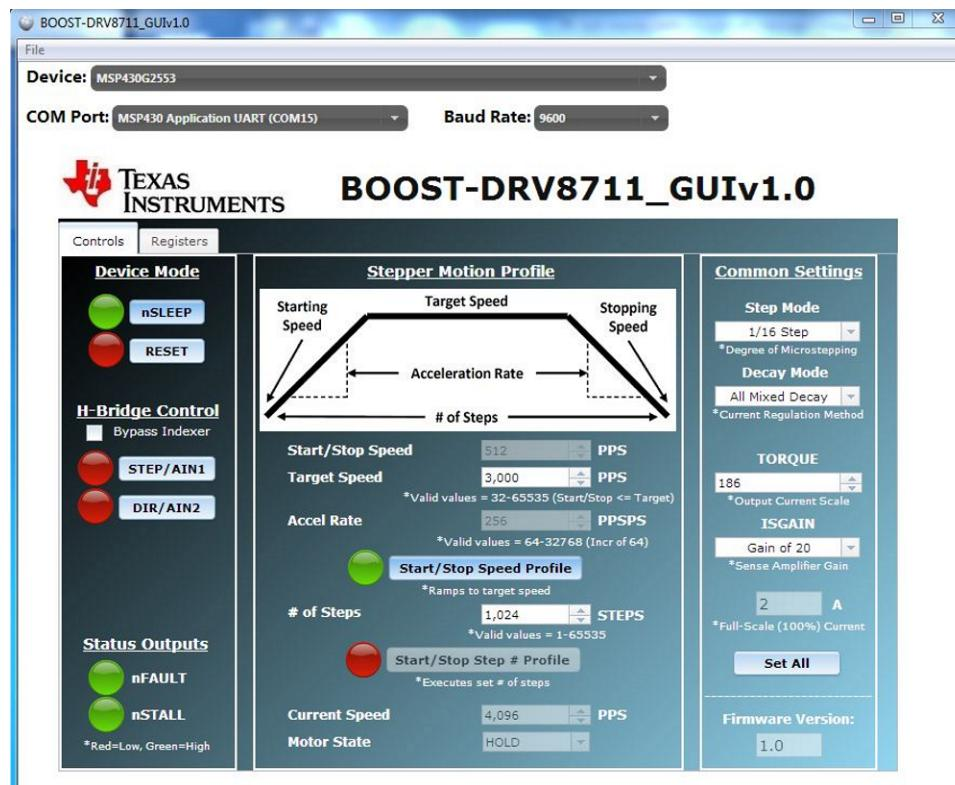
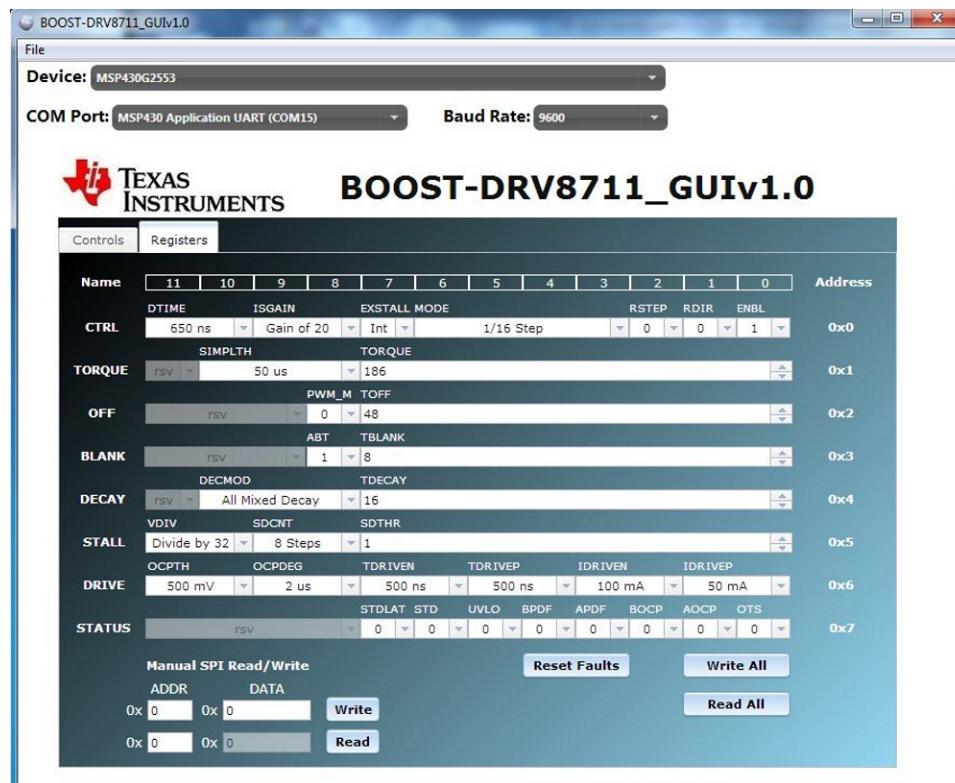

Figure 12. GUI Front Panel Settings
Figure 13. GUI Register Settings
5. Set the GUI controls to mirror the specifications in Figure 12 and Figure 13.